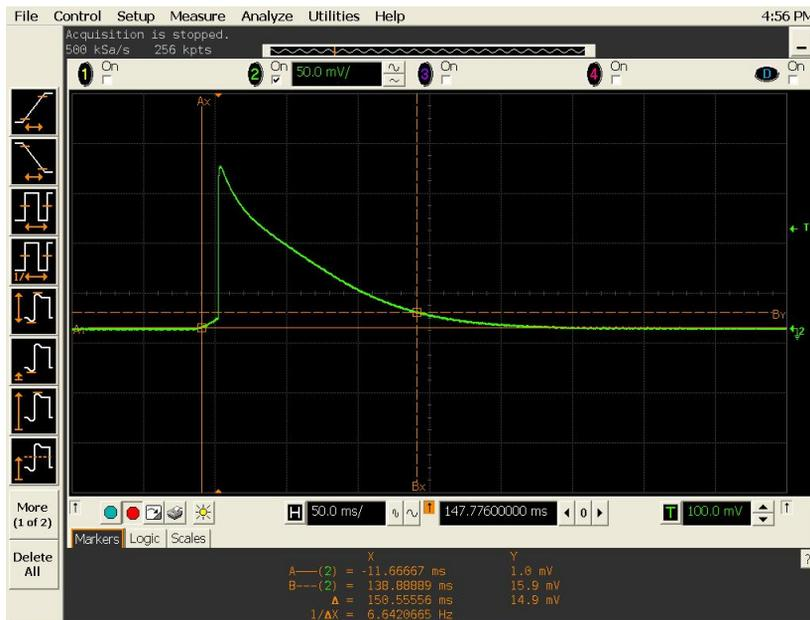

Figure 5-13 Load transient response time
- 7 Adjust the oscilloscope to display transients as shown in Figure 5-13. Note that the pulse width ($t_2 - t_1$) of the transients at 15 mV from the base line should be no more than 300 ms for the output.